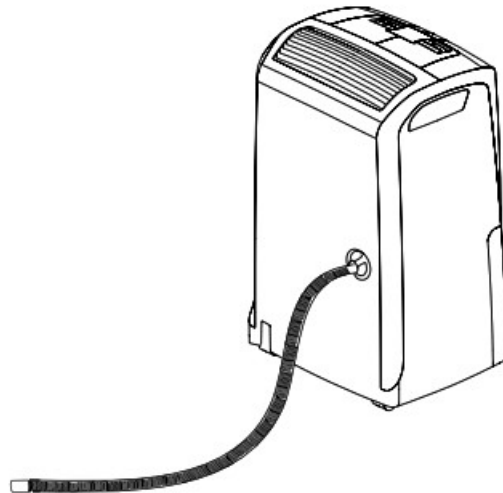

Fig. 4
2. Insert the drain cap 1 into the condensate drain hose 8 (fig. 3). Then, screw the cap 1 into the spout. (fig. 4).